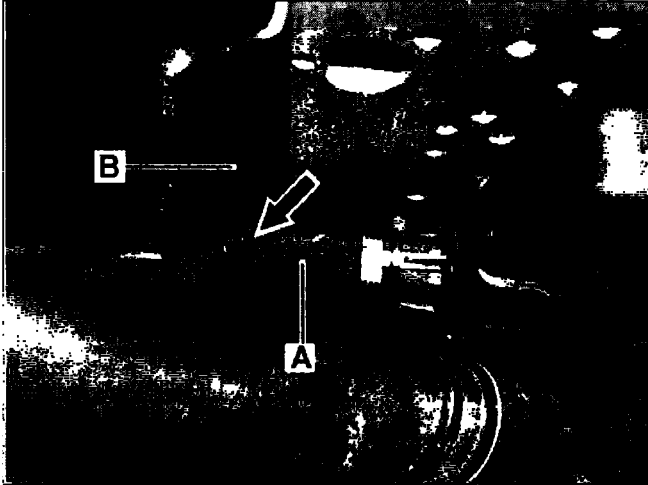

Figure 23
- Ensure cable tie (arrow, Figure 23) was properly affixed using cable tie pliers (Hellermann MK9; special tool number W 352 589 02 37 00); use **setting 3 on cable tie pliers**, as shown in Figure 24.
- Ensure wiring harness (A, Figure 23) touches the bracket (B, Figure 23) and is mounted there free of tension.